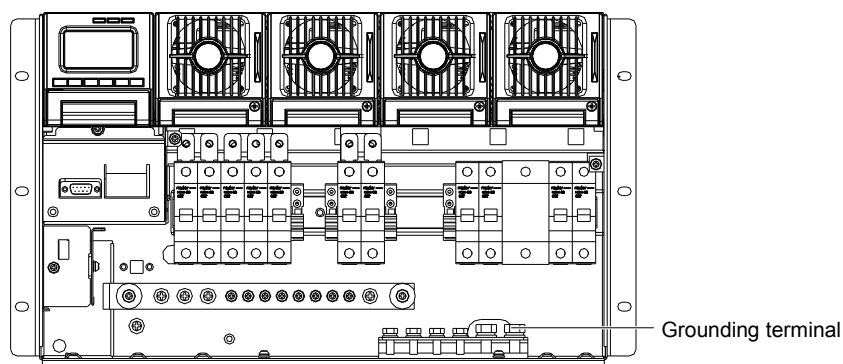

Figure 2-11 Position of the grounding terminal
3. Put the grounding cable through the entry hole on the right side of cabinet bottom. Route the cable along the frames. Lead the cable through the cable connector, as shown in Figure 2-11.
4. Connect one end of the grounding cable to the grounding terminal and solder the other end to the metal base reliably, as shown in Figure 2-11.
5. Fix the grounding cable to the cable frame with nylon ties, as shown in Figure 2-11.
1. The AC input cables routing method is the same as that of the grounding cables, as shown in Figure 2-11.